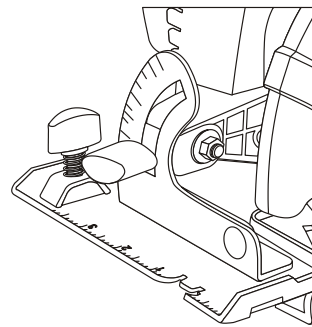

Figure 11
NOTE: To align the saw blade with the cutting mark, use the guide marks on the front of the sole plate (Figure 11). Use the 0° cutting mark (1) for right angle cuts. Use only the 45° mark (2) for 45° cuts. The 45° mark will allow for the extra material needed for the angle cut. Always make a test cut on a scrap workpiece before cutting the new material.